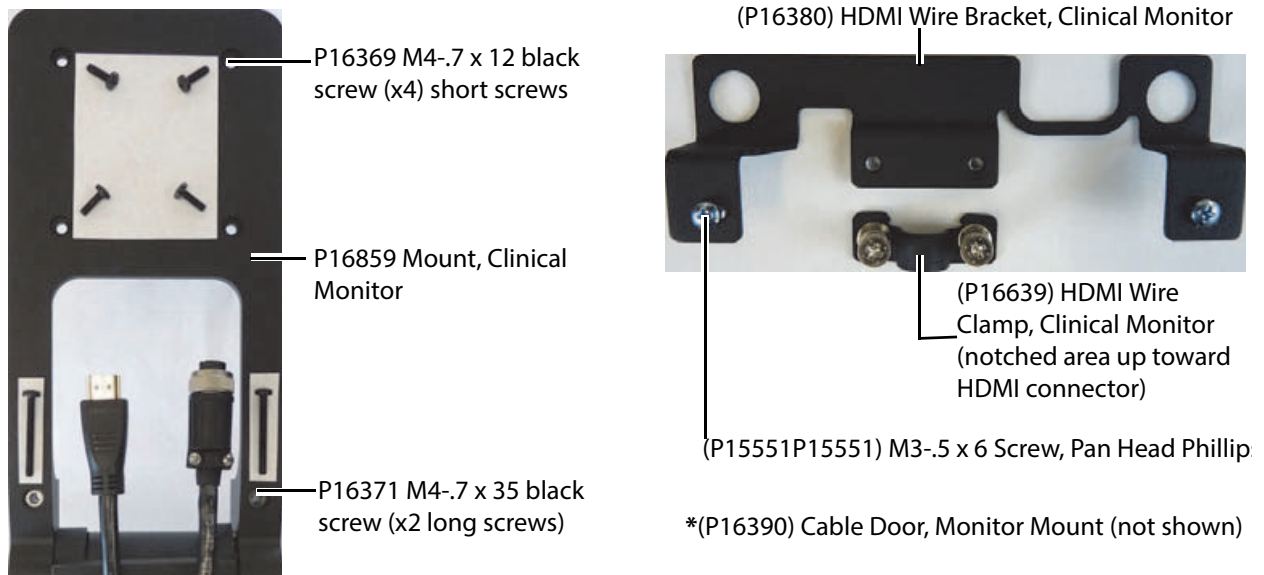

Figure 6.2 Clinical Monitor Mounting Hardware
- 5 Remove the six black Phillips pan head screws (4 short and 2 long) mounting the Clinical Monitor to the Clinical Monitor Display Mount. Refer to Figure 6.2 on page 35.